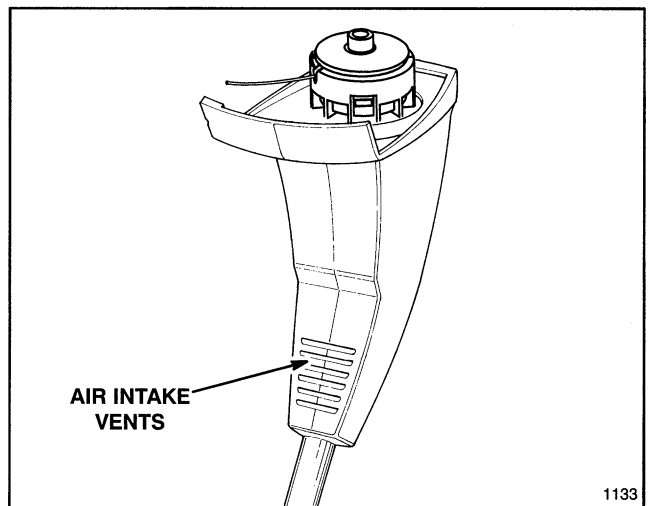

Figure 15
4. Wipe debris away from air intake vents in motor housing (Fig. 15).